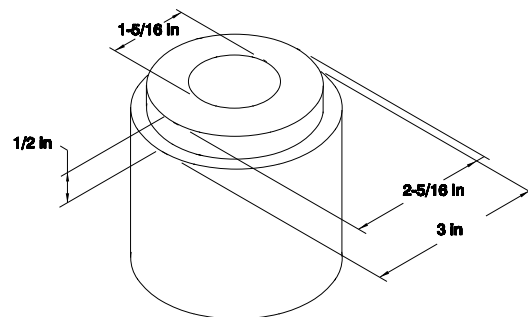

Figure 1.
The best way to assemble the flow sleeve (31), automatic valve body (56) and piston (29) is by using an assembly fixture such as that shown in figure 1. The fixture permits the parts to be stacked vertically during the assembly process. After the parts are stacked, the handle assembly can then be placed on top of the stacked parts and tapped into place.
The assembly fixture shown in figure 1 should be constructed of aluminum or brass and should be at least 3-1/2 in/88 mm high but no more than 8 in/203 mm high.
1. Lubricate the flow sleeve with clean hydraulic fluid and install it into the flow sleeve tube (30). The flow sleeve has a wide groove around the outside of one end. Install this end first. Then place the flow sleeve tube and flow sleeve on top of the assembly fixture shown in figure 1.
2. Apply grease and install an o-ring (21) onto the flow sleeve tube.
3. Apply clean hydraulic fluid and install 4 push pins (58) into the holes in the top of the flow sleeve tube. One end of each push pin contains a machined surface. This surface must be facing up as each push pin is installed. Each push pin must slide freely in or out of the hole. If a push pin does not slide freely or seems to stick, the hole may contain contamination or the top edge of the hole contains a burr. Remove burrs with a deburring tool, clean the hole thoroughly and try the push pin again.
4. Tap the roll pin (33) into the hole on the automatic valve body (56).
5. Apply grease and install an o-ring (21) onto the automatic valve body.
6. Lubricate with clean hydraulic fluid and install 2 push pins (57) into the holes in the valve body. One end of each push pin contains a machined surface. This surface must be facing up as each push pin is installed. Each push pin must slide freely in or out of the hole. If a push pin does not slide freely or seems to stick, the hole may contain contamination or the top edge of the hole contains a burr. Remove burrs with a deburring tool, clean the hole thoroughly and try the push pin again.
7. Lubricate the automatic valve (32) with clean hydraulic fluid and install it into the valve body. The automatic valve must freely slide back and forth. If it does not, the valve body or valve may contain contaminants or the bore of the valve body contains burrs. Remove the push pins and scrub the bore of the valve body with emery cloth and then thoroughly clean the bore, push pin holes and valve. Reinstall the push pins and valve.
9. Lubricate the piston (29) with clean hydraulic fluid and install into the top of the automatic valve body. Apply grease and install a new o-ring (28) into the groove in the piston (water flush models only).
10. Install the washer (27), smaller diameter first, over the stem of the piston and onto the automatic valve body.